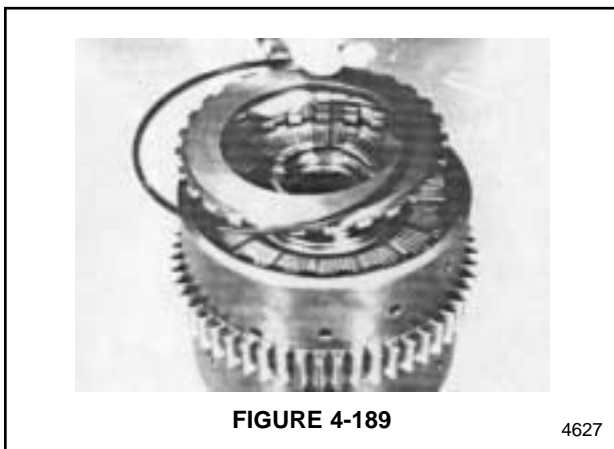

FIGURE 4-189
- Install the backing plate and then install the snap ring to hold the backing plate in place. See Figure 4-189.